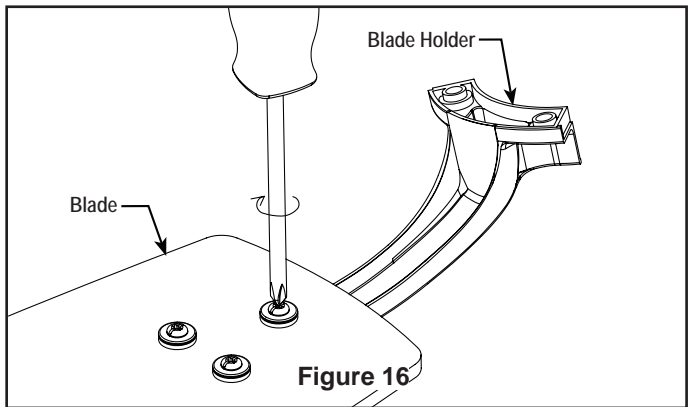

Figure 16
2. Position the blade over the blade holder with threaded posts showing. Make sure the bottom edge of the blade is fully seated against the blade arm. With a phillips screwdriver, tighten 3/16-24 x 10 mm washer head screws and fiber washers to secure the blade to the blade arm. (Figure 16)